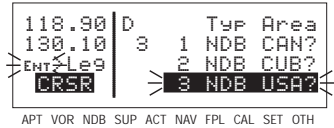

Figure 4-47
4. To select the desired waypoint, move the cursor over the appropriate choice (figure 4-47).